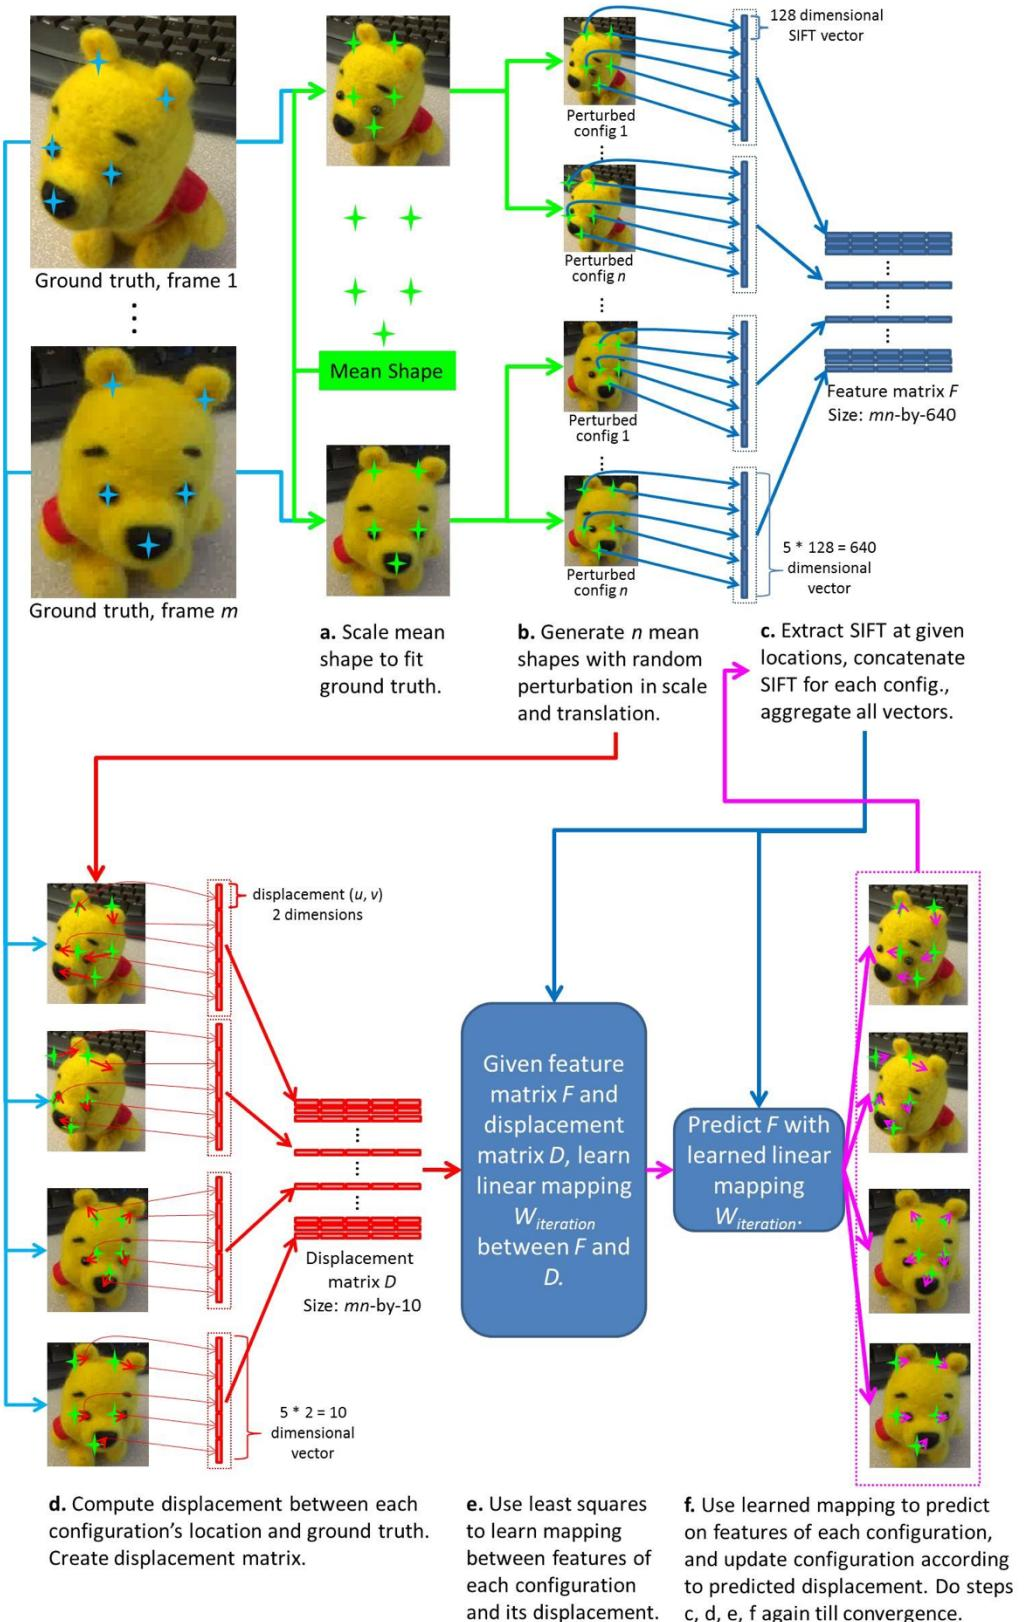

Figure 4: Flow for SDM training
Figure 4 illustrates the flow chart for the training phase. Below we will implement the SDM training phase step-by-step.
Question 2.2.1 Training step 1: perturbation (10 pts) We will implement training step 1 to generate a set of perturbed annotations, which corresponds to step (b) in Figure 4. The goal of the training phase is to learn how to transform an initial shape to a given annotation. To synthesize such transformation, we will slightly perturb an initial shape by translation and scaling to mimic the tracking scenario, i.e., the object will move a few pixels in the next frame. Implement `genPerturbedConfigurations` with the following steps:
1. Initialize the mean shape (a 5×2 matrix provided in `data/pooh/mean_shape.mat`) at the center of each frames annotation. Each row indicates the coordinates of each components. Also, scale the mean shape according to the size of the frames annotation accordingly with the `lib/findscale.m` provided. (see step (a) of Figure 4)
2. Perturb the initial mean shape by translation and scaling for n times. Note that you should apply the same perturbation to all 5 components and not a different translation and scale for each component. Each set of perturbed location contains 5 points corresponding to the location of each component. You have to be careful in making sure that your perturbed examples actually matches the tracking scenario during testing, because we are trying to mimic the tracking scenario here (e.g., in general Winnie moves less than 10 pixels per frame in our sequence). You might find `randn` useful. (see step (b) of Figure 4)
Given m training images, generate a $mn \times 10$ displacement matrix D , where each row contains the displacements between an initial shape and a true annotation of 5 components. The displacement should be computed for the (x, y) for the 5 components, so you have 10 displacement values for each configuration (i.e., locations of 5 components). See step (d) in Figure 4 for an illustration. For the assignment, please implement the following function in `genDisplacementMatrix.m`:
To generate the feature matrix, you will first pass the `perturbedConfigurations` matrix to the provided `lib/siftwrapper.m` to extract the SIFT descriptors. Then, create a (5×128) -dimensional feature vector by concatenating the SIFT descriptors of the 5 components for a single perturbed configuration. Stack all feature vectors from all perturbed configurations in all frames to generate the $mn \times 640$ feature matrix F . You need to make sure that the rows in D and F are ordered in the same way, i.e., the i -th row in F corresponds to the displacement of the i -th row in D . See step (c) in Figure 4 for an illustration. For the assignment, please implement the following function in `genFeatureMatrix.m`:
Question 2.2.3 Training steps 4&5: linear mapping and update configuration (10 pts) Now we have the displacement matrix $D \in R^{mn \times 10}$ and the feature matrix $F \in R^{mn \times 640}$. The goal here is to learn a linear mapping $W \in R^{640 \times 10}$ by solving the linear least square problem $W = \arg \min_W \|FW - D\|_F^2$. Recall this problem can be solved using pseudo-inverse (which was also used in the LK tracker). See step (e) in Figure 4 for an illustration. To assist you in solving the linear least square problem, we provide a function:
Given a feature vector f and the learned linear mapping W , you can now predict a 1×10 displacement vector using fW . Use the learned linear mapping W to update the current location of the 5 components (see step (e) and (f) of Figure 4). In the homework, please implement the following function which learns the mapping and updates the locations of the perturbed configuration in `learnMappingAndUpdateConfigurations.m`.